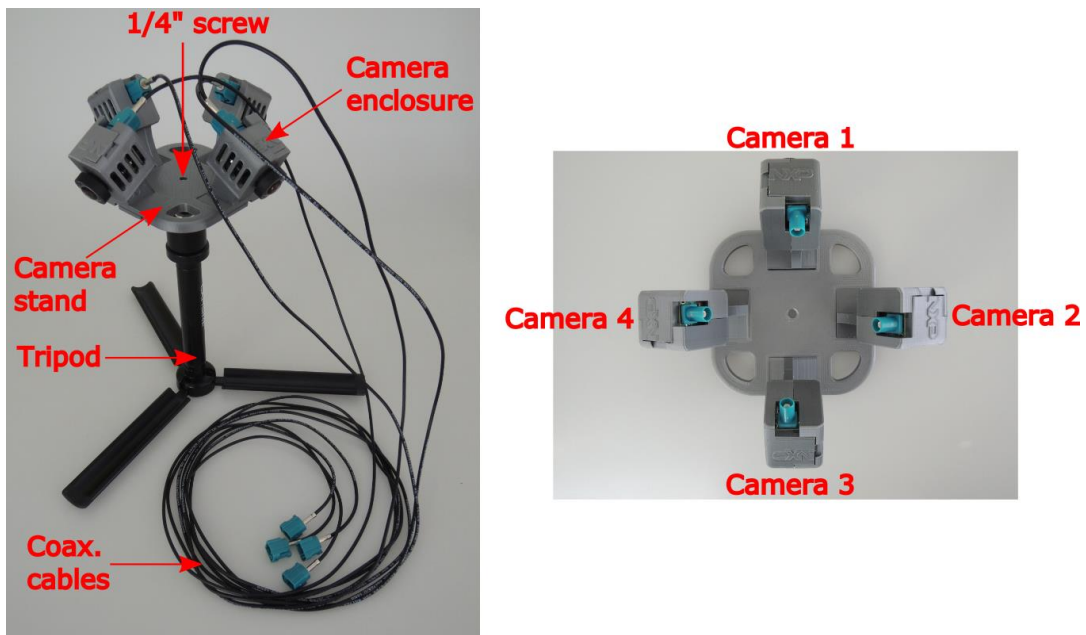

Figure 3. Camera system detail
- Screw the tripod to the camera stand using the built-in ¼" tripod screw (see Figure 3).
that the next camera is housed on the right side to the previous camera (see Figure 3), not across them.